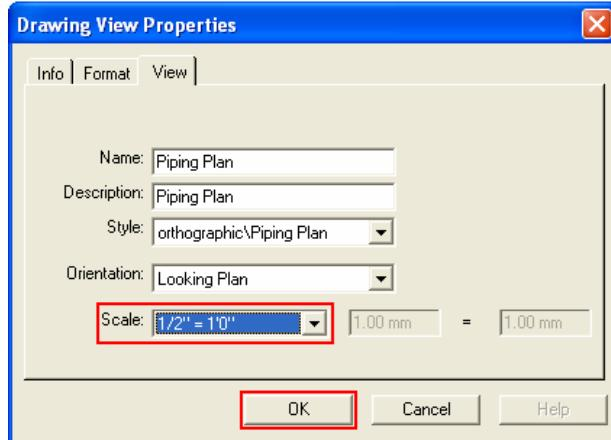

Figure 15: Drawing View Properties Dialog Box
3. In the **Drawing View Properties** dialog box, set the scale to $1/2" = 1'0"$ and then click **OK** as shown in Figure 15.